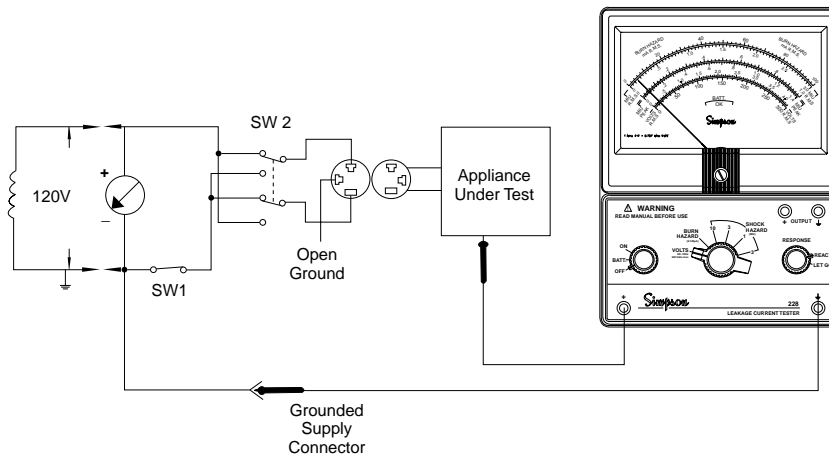

Figure 4. Typical Test Setup
NOTE: The following is based on set-up and test procedures from the applicable standards document (or from the equipment manufacturer) for correct main connection, detailed test procedures and leakage current limits. Figure 4, Page 13, shows a typical test setup. All items other than the 228 and its accessories must be provided by the user.
3. Connect the Instrument and equipment under test. Figure 4, above, shows a typical test setup. Do not apply power.
1. Use SW2 switch (see figure 4, page 13) to reverse the hot and neutral. Do not close SW1 to activate the unit under test. Repeat Voltage, Burn Hazard, and Shock Hazard tests. After completing tests, return SW2 to original position.